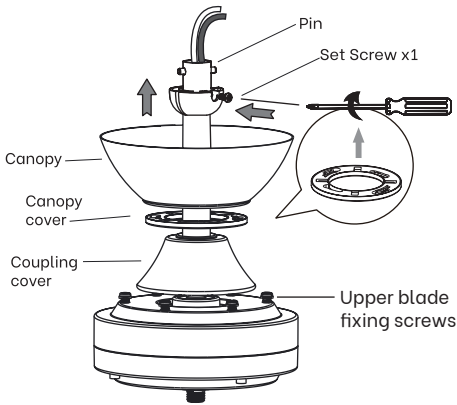

Fig.5 Motor Assembly
6. Route the wires through the previously removed hanger ball. Insert the previously removed hanger ball pin through the two holes in the downrod and align the hanger ball so that the pin is captured in the groove in the top of the downrod. Pull the hanger ball up tight against the hanger ball pin. Securely tighten the preassembled hanger ball set screw. Ensure that the pin is in the correct position, the hanger ball set screw is tightened, and wires are not twisted (Fig.5).